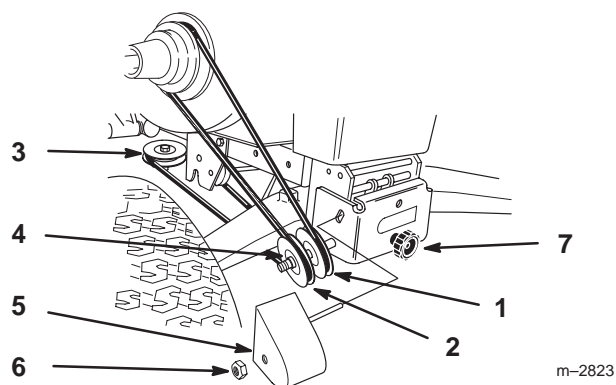

Figure 35
7. Route belt around V and flat pulleys and loop over upper mower pulley (Fig. 35).
8. Check that spacer is on the shaft and install the belt cover with rod in hole. Secure with a locknut (Fig. 35).
9. Turn knob counterclockwise to tighten belt (Fig. 35). Tighten until there is 1 in. (26 mm) belt movement between engine clutch and idler pulley when slight pressure is applied to the belt.